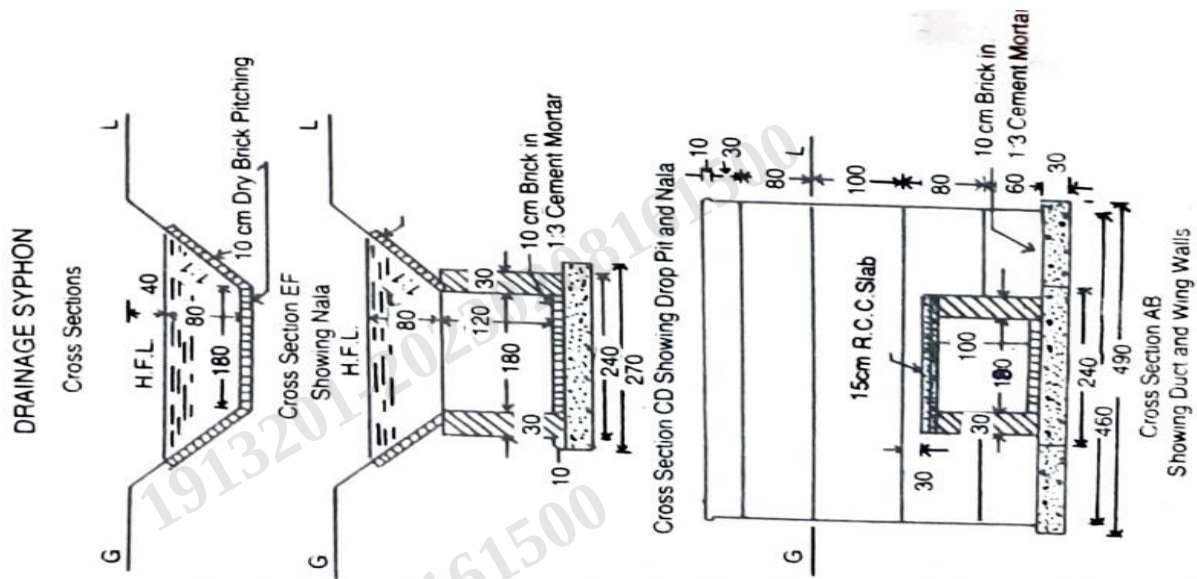

Figure 1
- c. Find out the quantity of earthwork in excavation for drainage syphon from figure 1.